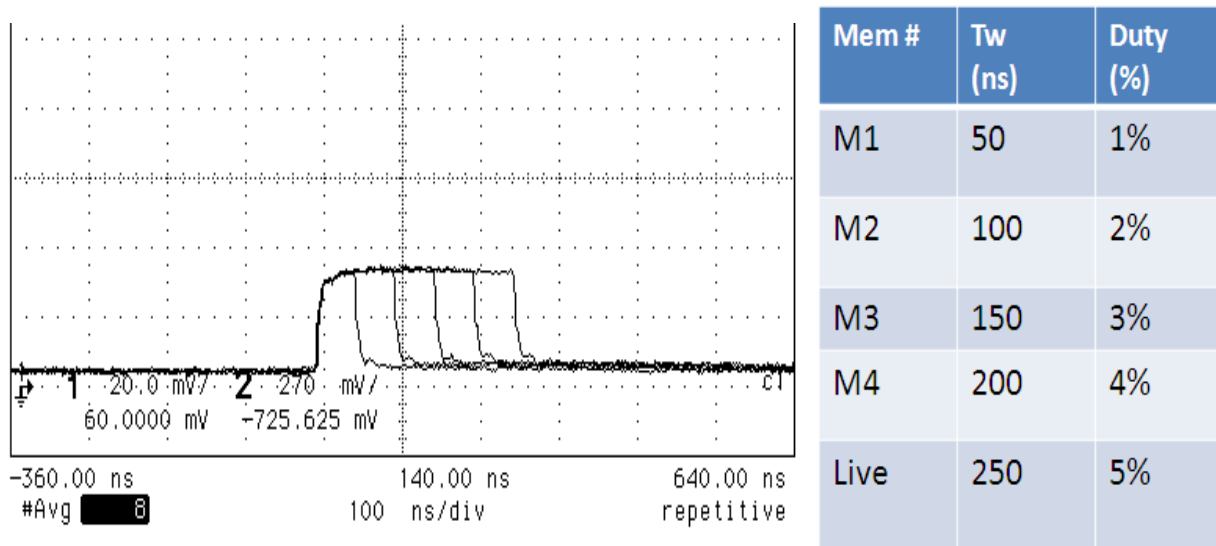

Figure 5: Pulse Shape as a function of pulse width and duty cycle for a fixed current. Pulse widths varied from 50-250nsec and duty cycle varied from 1 to 5%.
For short pulse widths (below 250 ns) and low duty cycle (below 5%), it can be shown that the Peak Pulsed Power is essentially independent of either the pulse width or the duty cycle. Figure 5 depicts the actual pulsed optical power captured over a range of pulse widths from 50 ns to 250 ns for a 670 nm Single Mode (SM) VCSEL. Various pulse widths were captured into the scope's memory and overlaid. The data table has the scope memory # (M1 ... M4) and the live